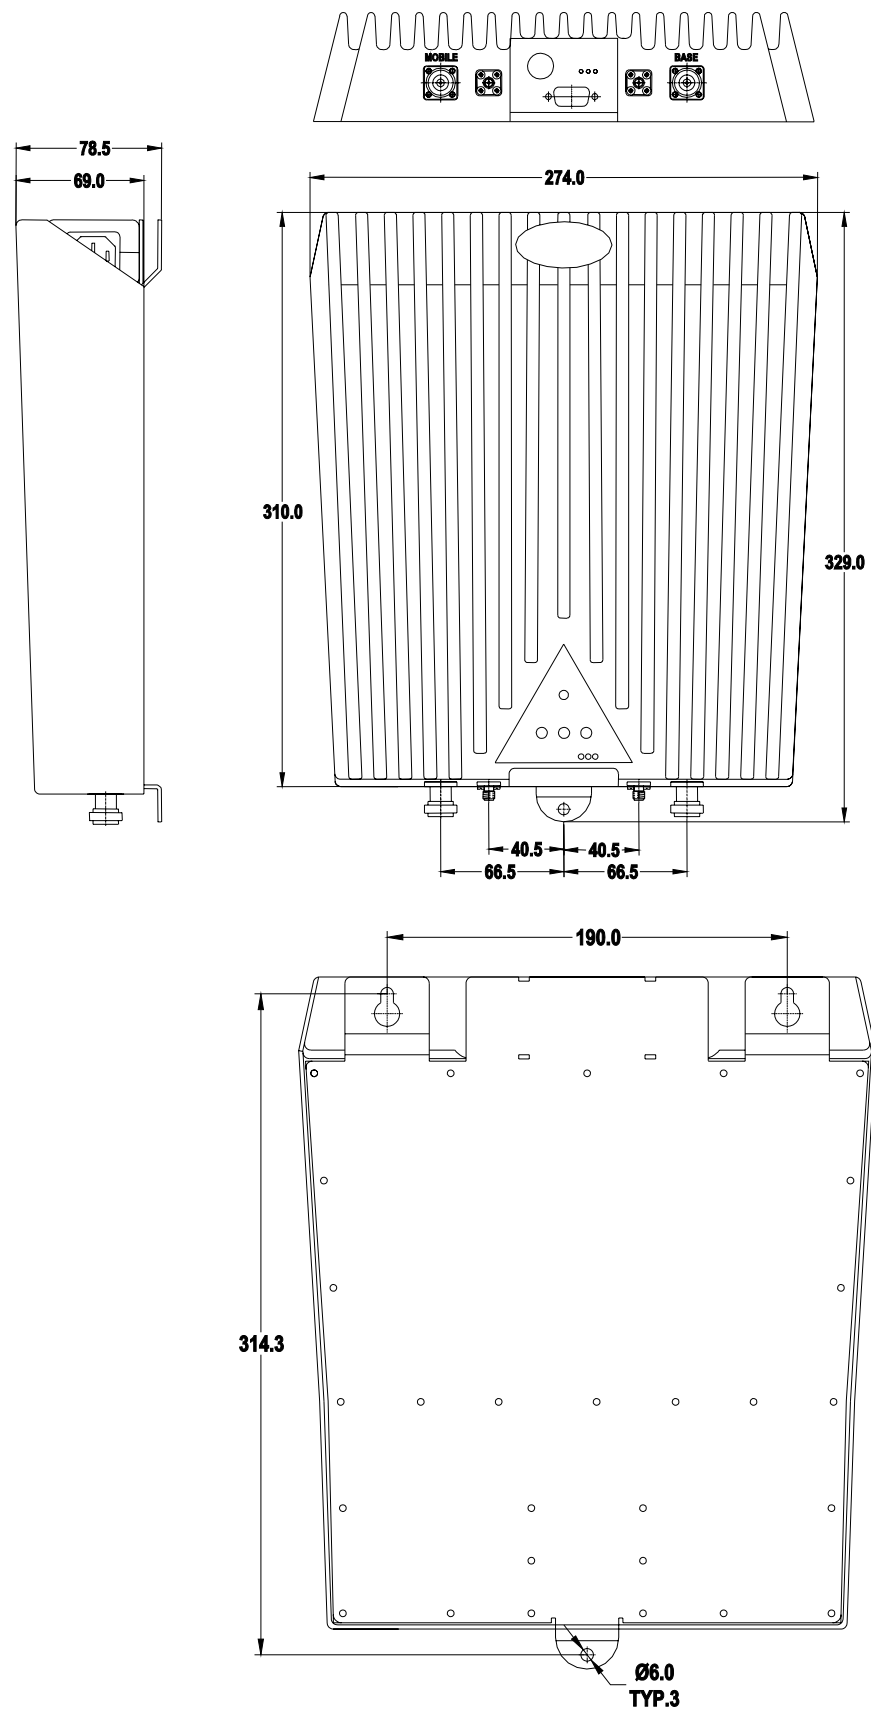

Figure 5: Mini—Repeater Deko2119 – Dimensions
The Mini-Repeater Deko2119 is provided with back panel flanges for easy installation on any surface (see Figure 5). It is recommended to install the Mini-Repeater on a flat rigid surface. The installation site for the Mini-Repeater should take into consideration the following conditions:
- Mark the three drilling holes on the surface of the wall based on the mounting holes on the Repeater chassis – see Figure 5
- Drill the appropriate three (3) holes in the wall. Recommend the screw sizes to use, such as: “It is recommended to use No. 8 screws”.